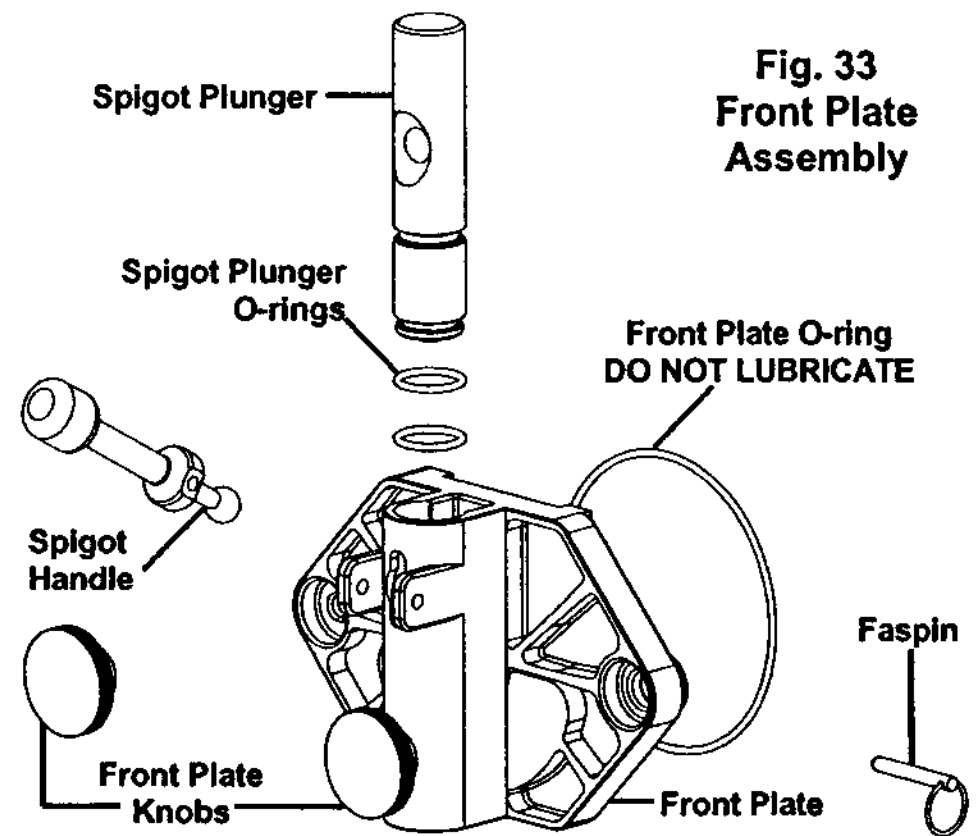

**Fig. 32**
- a. Install the two o-rings on the spigot plunger by rolling them onto the plunger. Seat the o-rings in the grooves. Be certain that they are not twisted. Smooth the lubricant into the grooves and over the sides of the plunger assembly (Fig. 32).